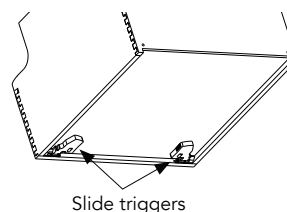

FIGURE 3C
If you are installing a casserole dish storage unit, find the left and right triggers and install the triggers on the correct side using (4) #6 X 1/2" pan head screws (See Figure 3C & 3D).